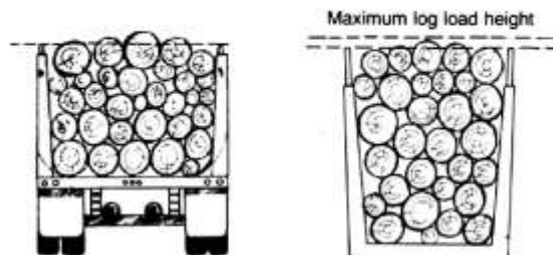

Figure 2. Maximum load height and width.
9. The outside logs of the load should not be loads above the top of the stanchions or the stanchions extensions where fitted. Logs loaded in the middle load should not more than one third of the diameter of the log(s) above the top of the stanchions extension where fitted. Refer Figure 2.